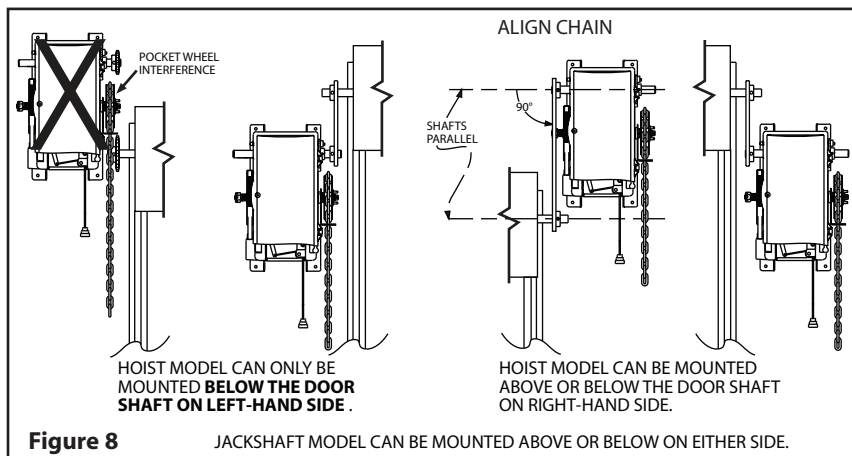

Figure 8
- 9) Align chain and secure operator to wall. **Fig. 8.**